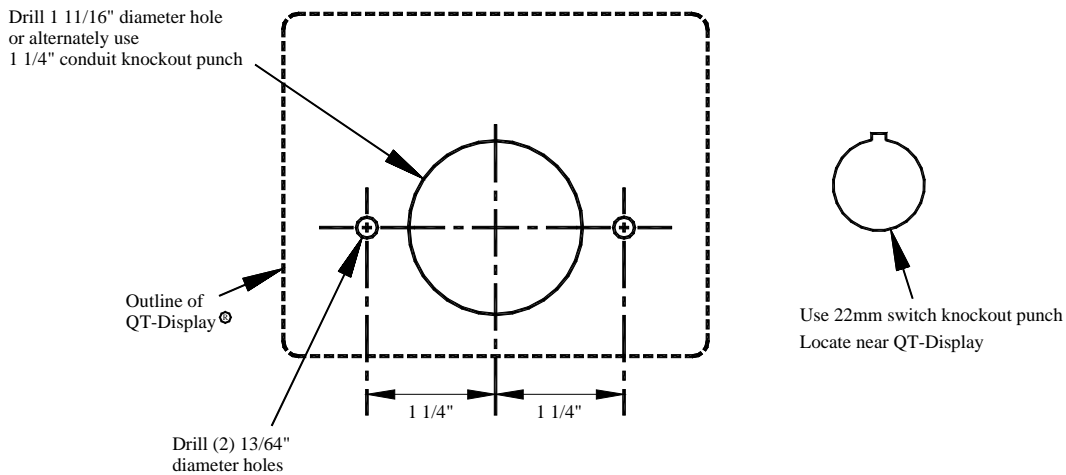

Figure 6.2-1
1. Find a suitable location on the cubicle door and mark the location of the three (3) holes using the dimensions in Figure 6.2-1.
2. Drill two (2) 13/64" mounting holes.
4. Attach the QUICK-TRIP Display to the front of the cubicle door using two (2) 10-32 hex nuts, flat washers and lock washers.